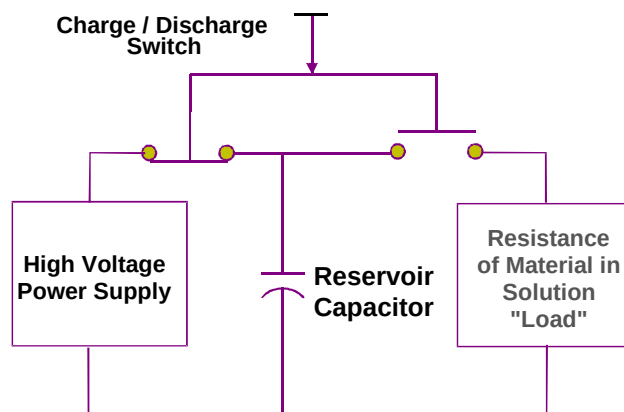

Figure 2-5: Exponential Decay Generator
2.2.2 Exponential Decay (ED) Electroporators
The simplest approach to generating a high voltage pulse is to charge a capacitor (C) with a high voltage power supply, and then discharge the capacitor into the chamber containing the cells in the desired aqueous medium or buffer. The cells and the buffer represent the electrical “load” or resistance (R) for the high voltage pulse, see Figure 2.5. The charge switch is shown “closed” and the discharge switch is shown “open”. When the sample is to be pulsed, these switch positions are reversed and the discharge switch remains closed until the capacitor is completely discharged. This capacitor is also called a reservoir capacitor. The number of electrons that the capacitor can store (“size”) is measured in farads, and given the symbol F, which is the number of electrons per volt.